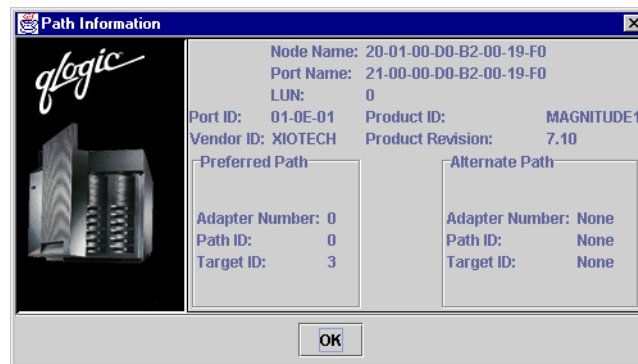

Figure 7-10. Path Information Dialog Box
1. Right-click in the cell in the Adapter *n* column. From the pop-up menu, select **Path Information**. The **Path Information** dialog box displays for the path (see figure 7-10).